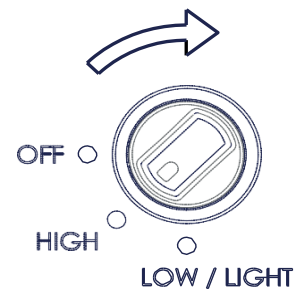

Figure 3
- Turn gas control to high position (*Refer to Figure 3*).